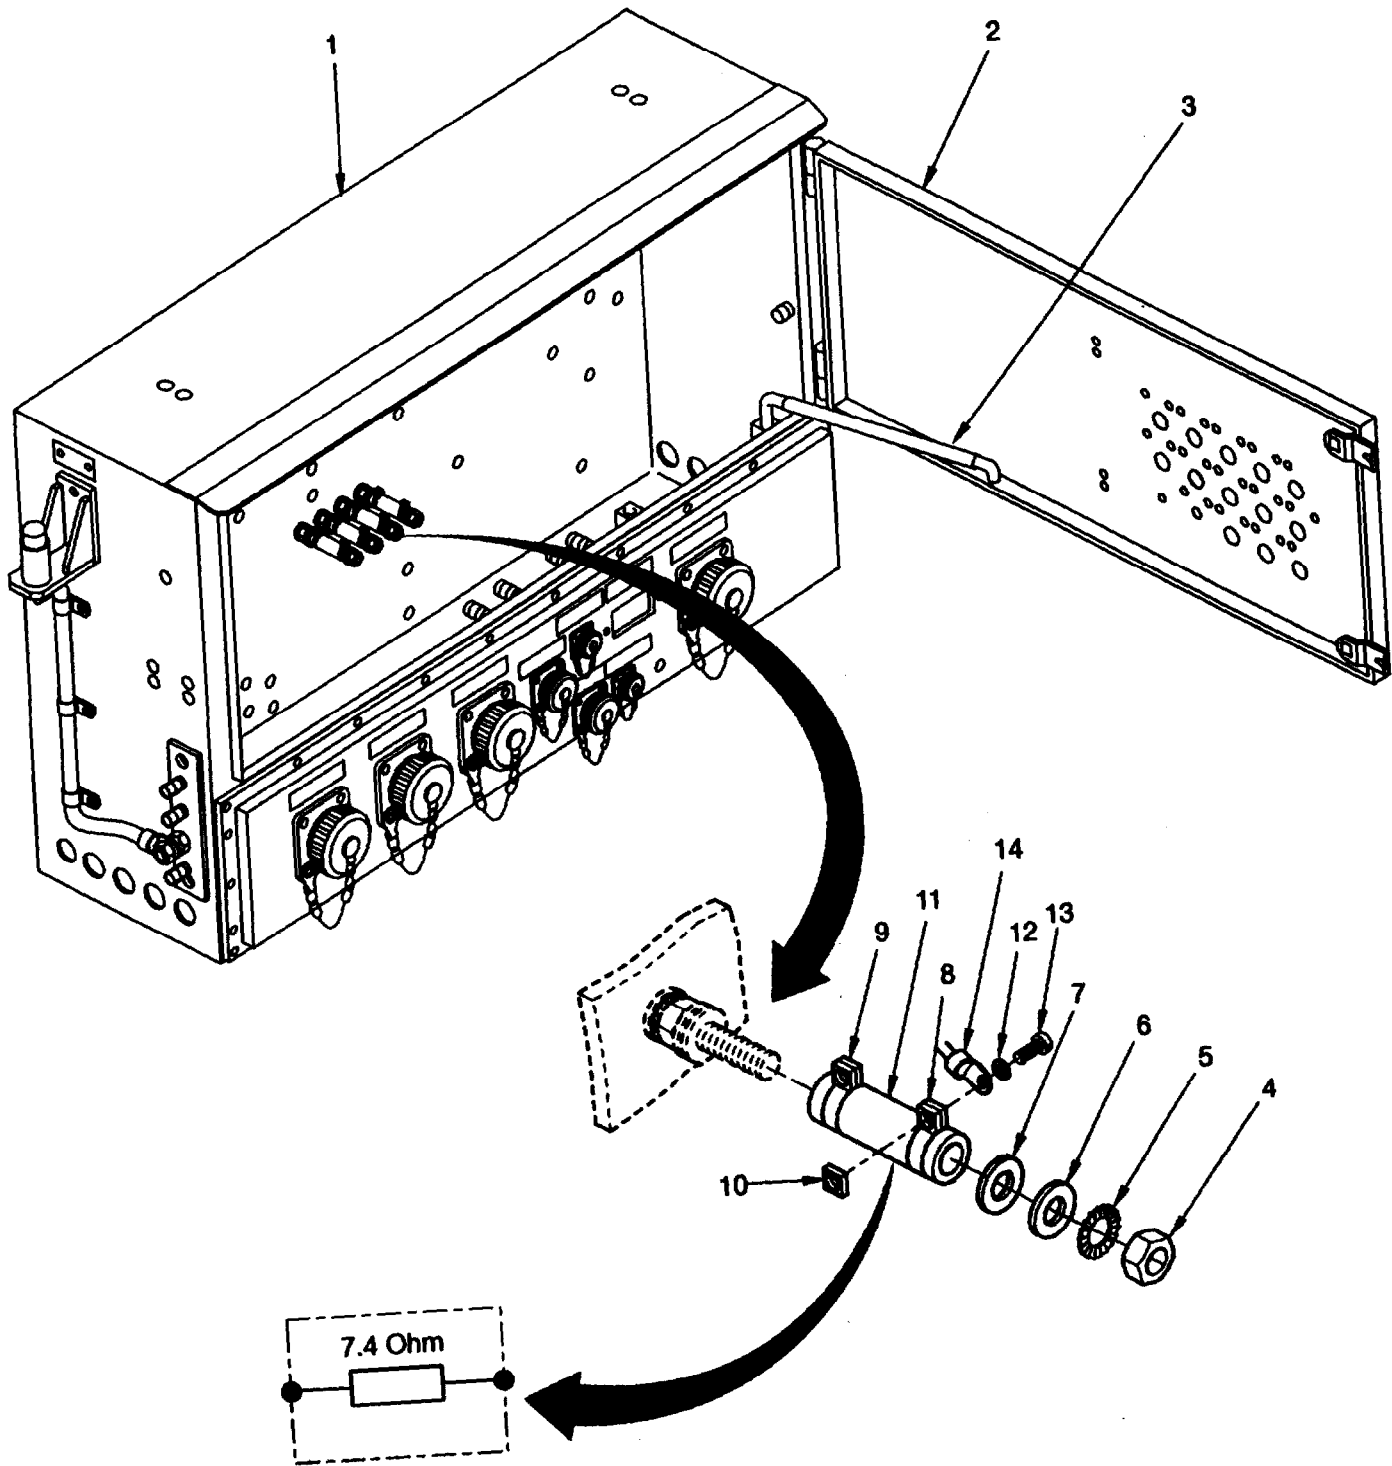

Figure 4-41 Contactor Protective Resistor.
- a. Remove stanchion by PDU (1, figure 4-41).
- b. Open access door (2) and secure with prop (3).